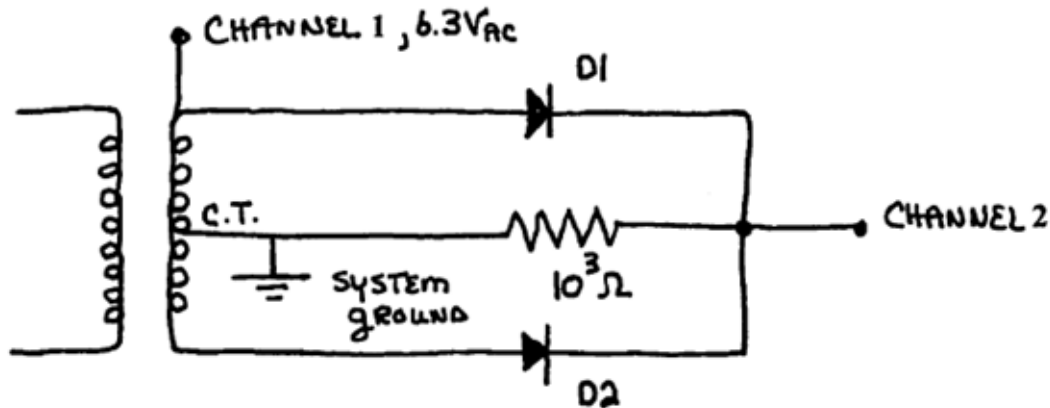

Figure 5.5 Center tap full wave bridge rectifier
Here are two examples of full-wave rectifiers. Figure 5.5 shows a center-tap full-wave bridge rectifier. For half a cycle the top loop is forward biased, the D_1 diode conducts. In the next half cycle the bottom loop is forward biased, the D_2 diode conducts. Either way the current passes through the resistor in the same direction as the load receives both half cycles with the same polarity. Note also that the rectified voltage across the resistor is the center tap peak voltage which is equal to one-half the peak secondary voltage.
1. Construct the circuit in Fig. 5.5 using the secondary's center tap. DC couple your oscilloscope.